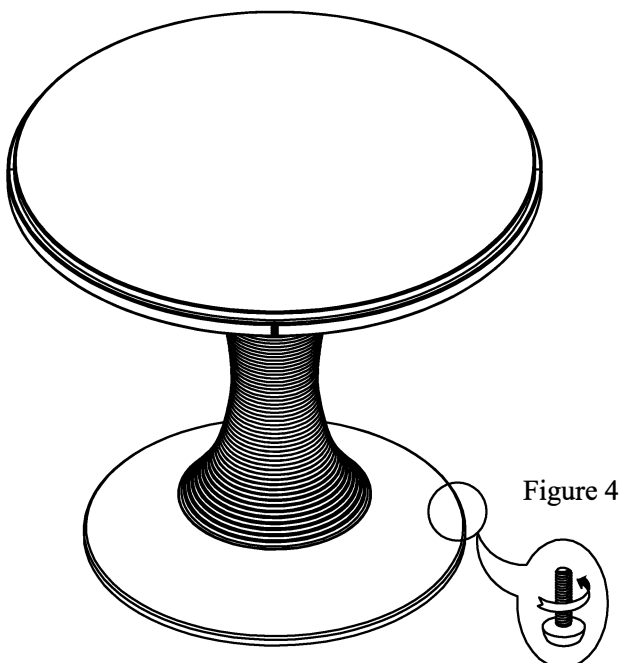

Figure 4
- STEP 4. Carefully turn the table up. Adjust the levelers at the bottom of the feet if needed to level table on uneven floor. See Figure 4